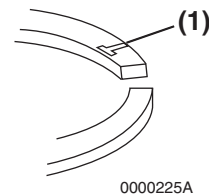

Figure 6-87
Note: Reinstall the top and second piston rings with the stamped “makers mark” (Figure 6-87, (1)) facing the top of the piston. The “makers mark” may vary in appearance but will always be located on the top surface of the piston ring adjacent to the piston ring gap. The oil ring and oil ring expander can be installed either side up.